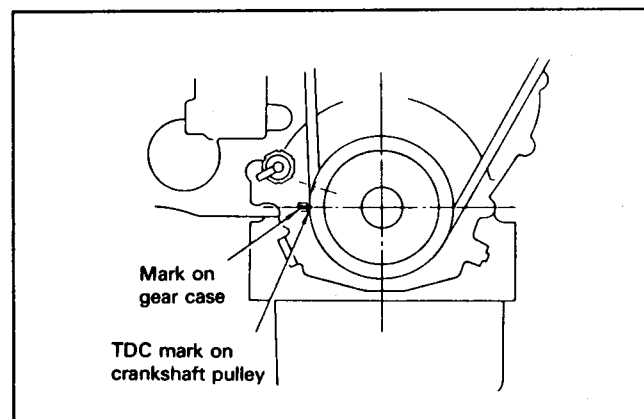

Figure 26
5. Rotate the crankshaft until the TDC mark (located next to the injection timing mark(s) on the pulley lines up with the registration mark on the gear case (Fig. 26). This will be TDC on cylinder No. 1.